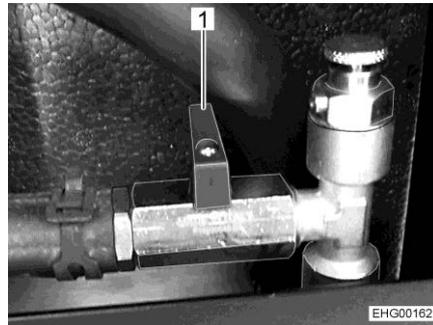

Fig. 169 Spherical valve (closed)
- Set the lever (Fig. 169,1) at right angles to the pipe.